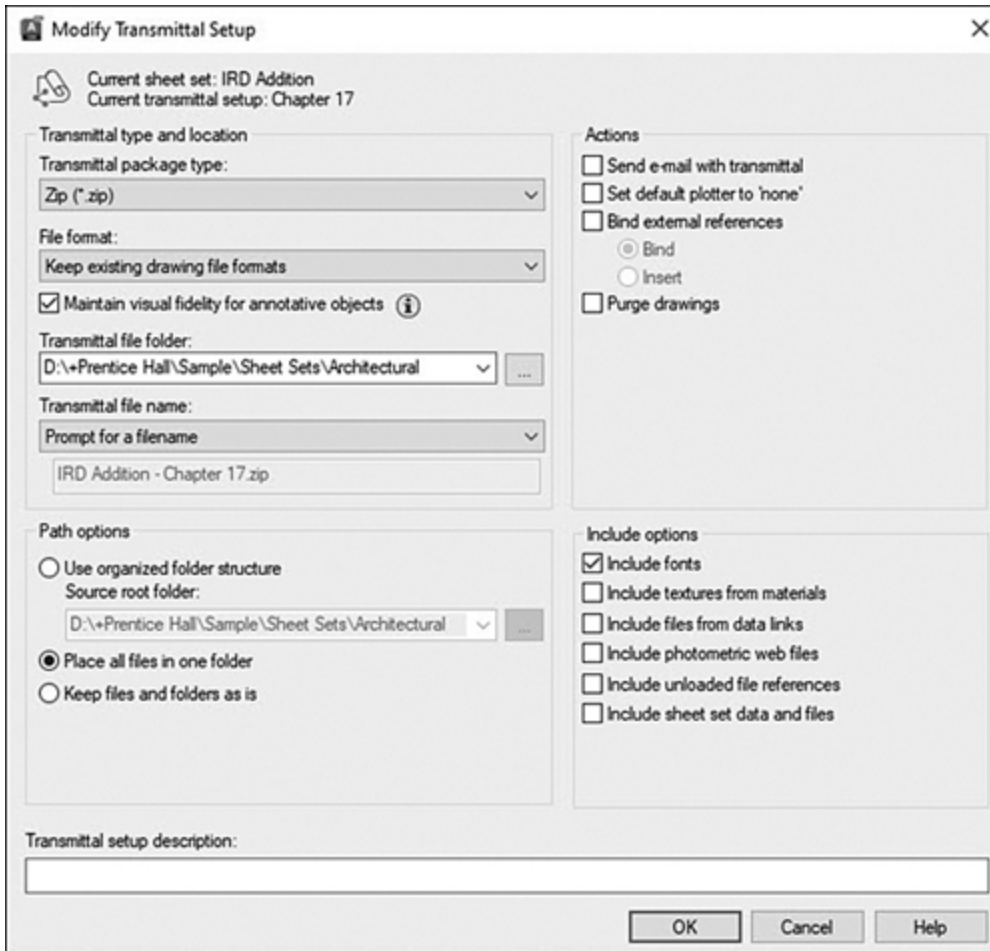

Figure 17-48
- 6** Choose **Place all files in one folder** and **Include fonts**. Turn all other options off. Choose **OK** to save the transmittal setup and **Close** to return to the **Create Transmittal** dialog box. Your settings should be set to match Figure 17-48.